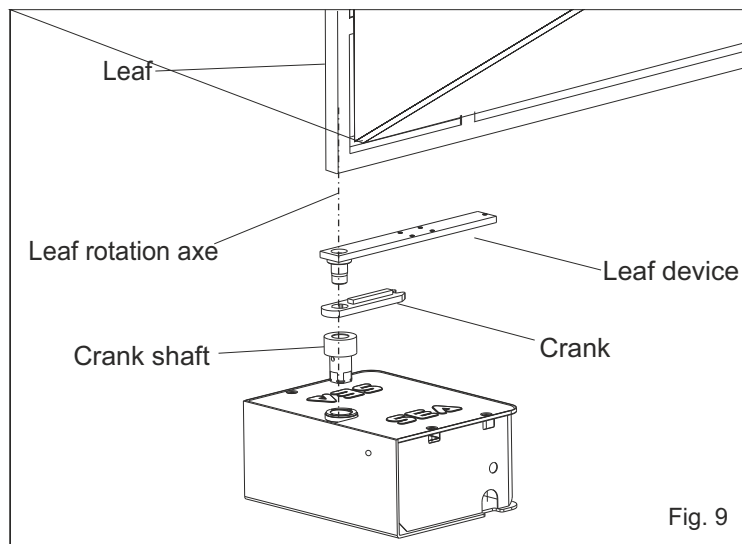

Fig. 9
**3.1.** Position the leaf of the gate on the leaf device making reference to the rotation axe of the leaf hinge (Fig. 9);